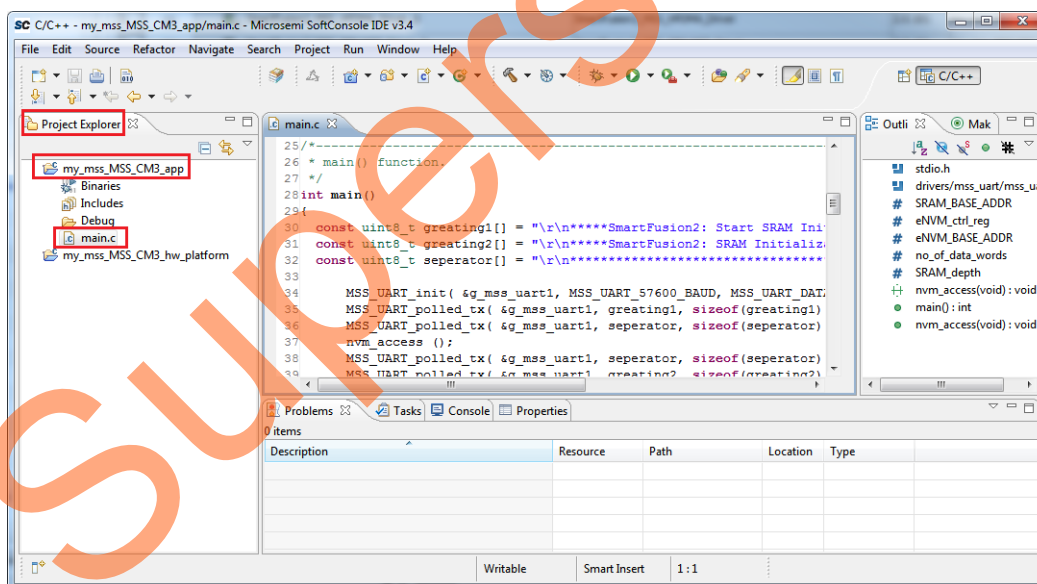

Figure 11 • SoftConsole Window
SoftConsole opens with the project automatically loaded as shown in Figure 11.
8. Inspect the main code by double-clicking the **main.c** file as shown in Figure 11.